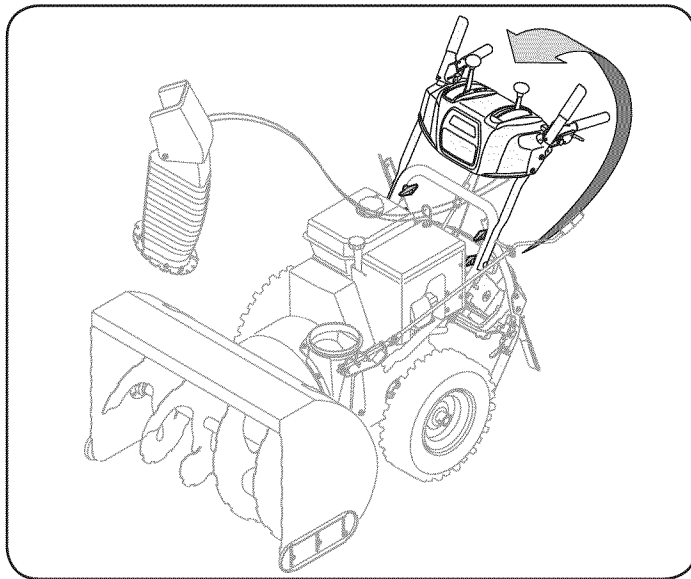

Figure 1
3. Remove the lower plastic wing nut, belleville washer and carriage bolt from each end of the right and left upper handle; then raise the upper handles by pulling up and back on the grips of the upper handles until they are aligned with the lower handle. See Figure 1.